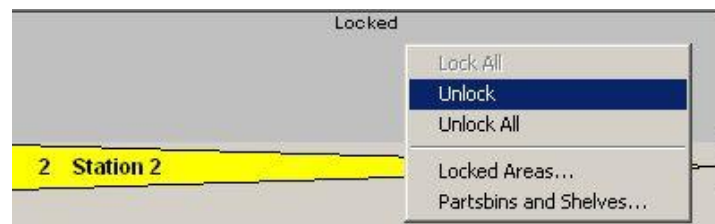

Figure 262: Context Menu for Material Supply Area
- Using the menu item **Locked Areas...**, locks single areas of a material supply area. *Please refer to the Figure 262.*